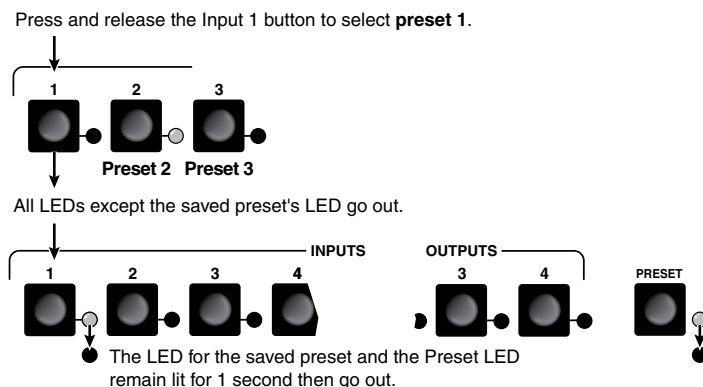

Figure 3-27 — Select the preset
2. Press and release the Input 1 button (figure 3-27).